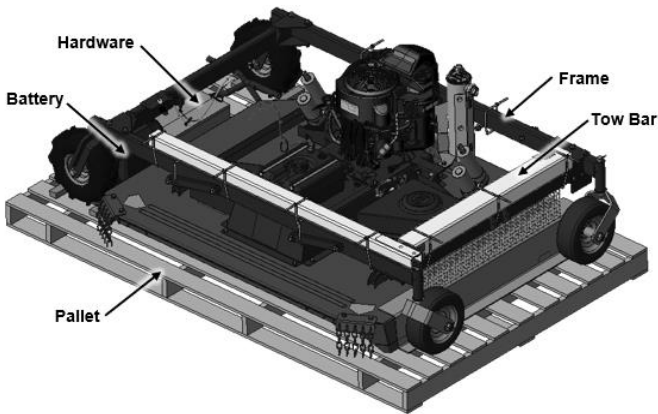

Figure 2
4. Cut the cable ties that hold the frame and wheels to the pallet and loose components (**Figure 2**).